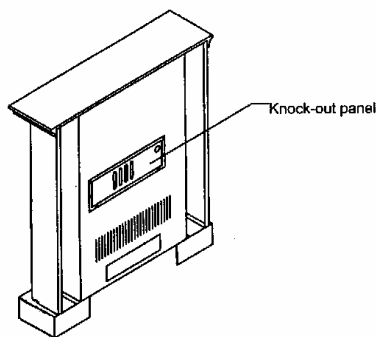

Figure 9-F Removing Stove Knock-out Panel
1. From back of fireplace remove the Knock-out center panel with two brackets at the four sides with a Philips head screwdriver (see Figure 9-F).